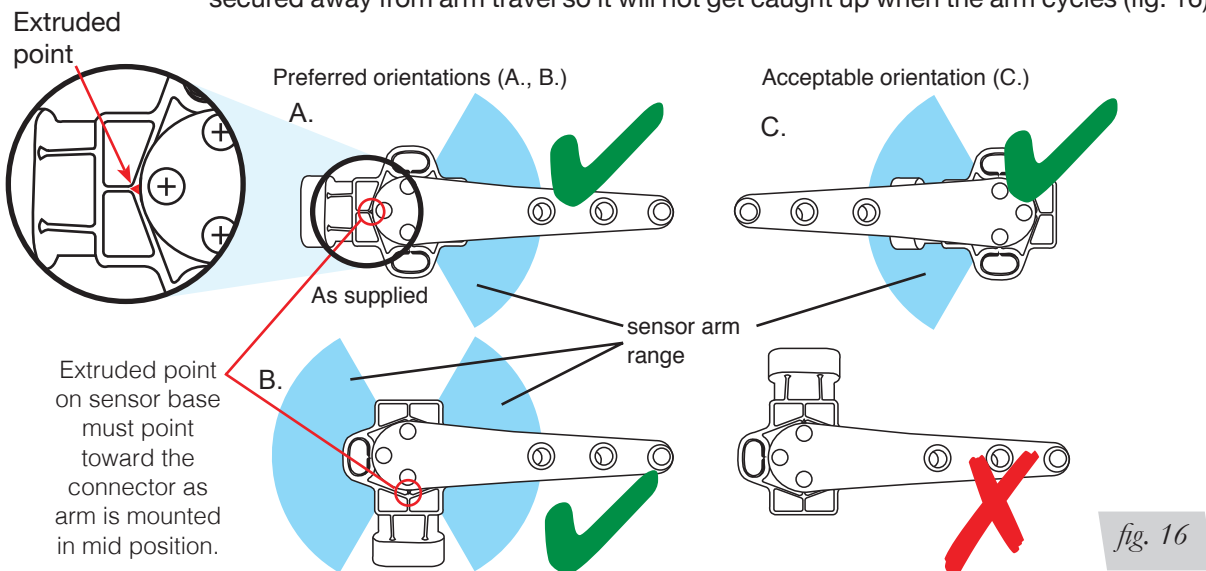

fig. 16
2. The sensor can be mounted in any direction and will still work as long as the sensor arm base's extruded point is pointing toward the connector when the sensor arm is at its mid-position. The height sensor assembly is supplied in position A. Remove the arm to reposition it to B or C but keep the extruded point in the direction of the connector. The orientation of the connector must be either facing down or parallel to the ground to avoid water accumulating on the connector and making its way into the sensor. Also mount the sensor where the arm will be mounted opposite or 90 degrees from the connector wiring if possible. If not possible, ensure the wiring harness is secured away from arm travel so it will not get caught up when the arm cycles (fig. 16).